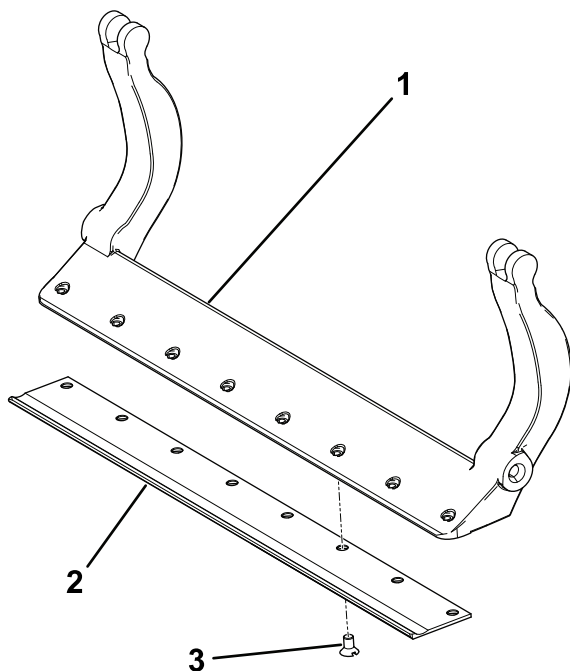

Figure 34
3. Apply anti-seize compound to the screws and install the bedknife to the bedbar as follows (Figure 34):
- A. Torque the 2 outer screws to 1 N·m (10 in-lb); refer to Figure 34.
- B. Working from the center of the bedknife, torque the screws to 23 to 28 N·m (200 to 250 in-lb); refer to Figure 34.